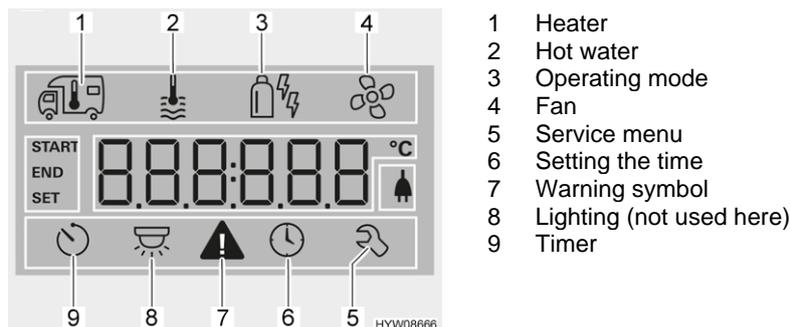

Fig. 163 Display (operating unit)
- Turn rotary push button (Fig. 162,6) until the heater menu symbol (Fig. 163,1) flashes.
- Turn rotary push button (Fig. 162,6) until the hot water menu symbol (Fig. 163,2) flashes.
- Turn rotary push button (Fig. 162,6) until the menu symbol operating mode (Fig. 163,3) flashes.
- Turn rotary push button (Fig. 162,6) until the fan menu symbol (Fig. 163,4) flashes.
- Turn rotary push button (Fig. 162,6) until the timer menu symbol (Fig. 163,9) flashes.
- Press rotary push button. The timer is activated. The timer symbol (Fig. 163,9) flashes when the timer is programmed and active.
The warning symbol (Fig. 163,7) flashes in the event of a warning. The heater continues to operate. In the event of only a temporary fault, the warning symbol goes out automatically.